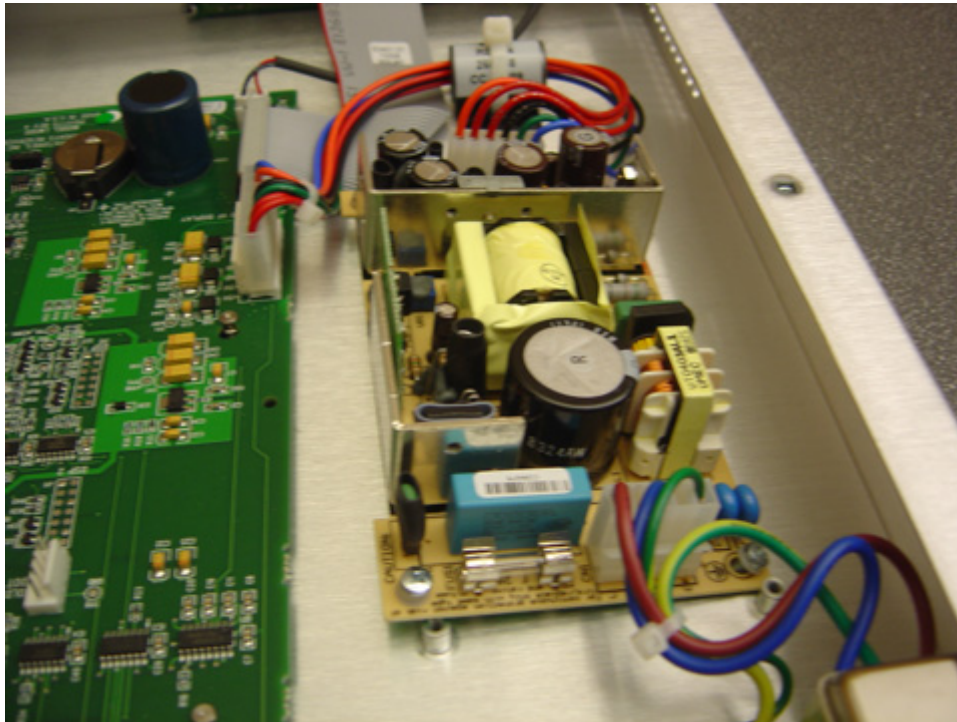

Figure 4 Power Supply Module with the Cover Off
6. Unwrap the protective cover from power supply module, and set it aside. The protective cover will be reused. Figure 4 shows the power supply module after the protective cover has been removed.